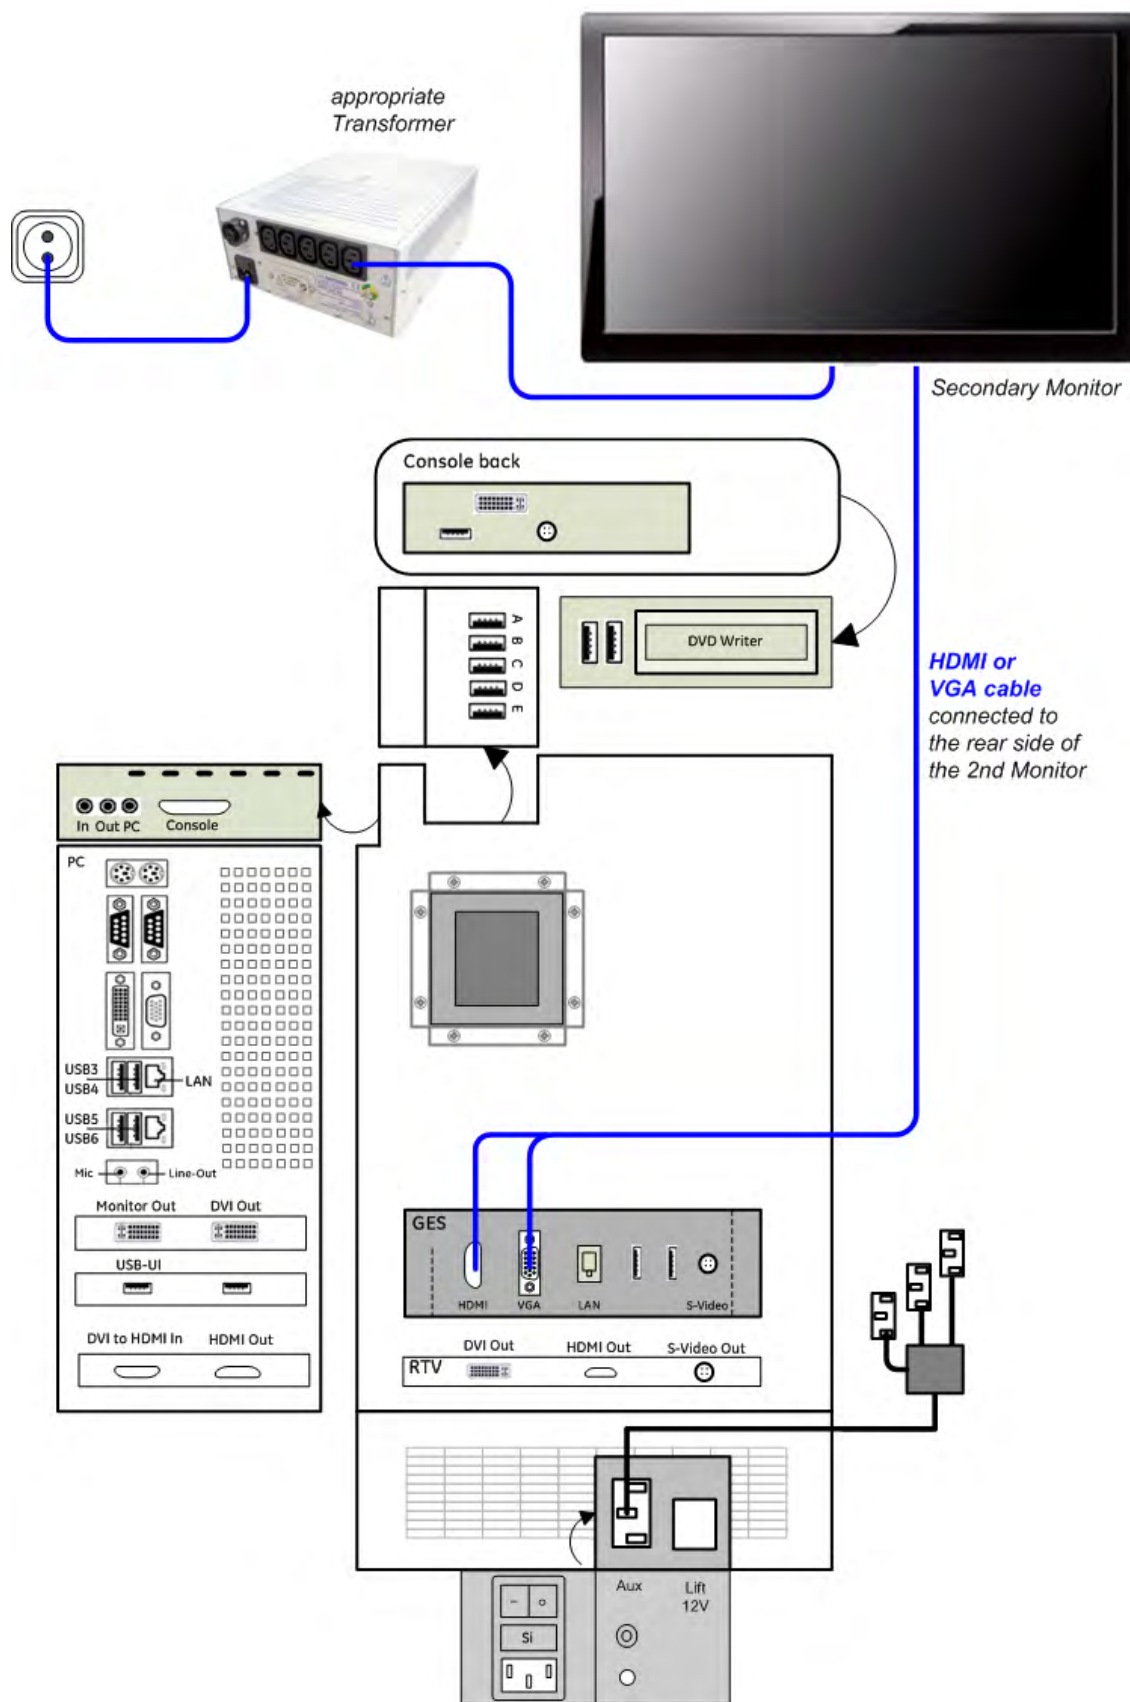

Figure 3-9 Secondary Monitor connection
2. Connect the Secondary Monitor according to connection scheme, see: Figure 3-9 on page 3-21 .